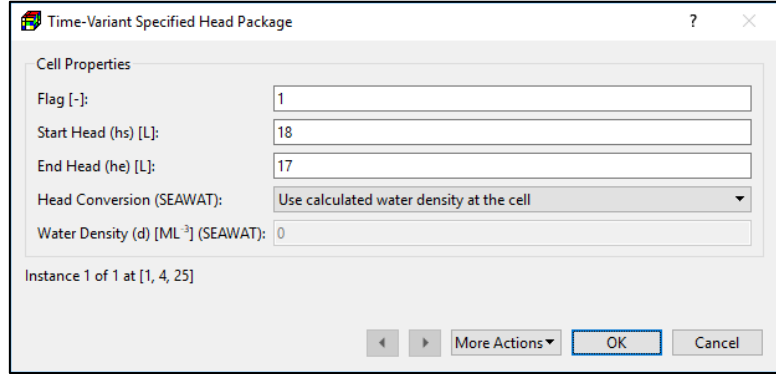

Figure 91. The Time-Variant Specified Head Package dialog box
1. **All input methods**⁴⁴: Figure 91 shows the dialog box for specifying cell, vertex, or polygon properties.